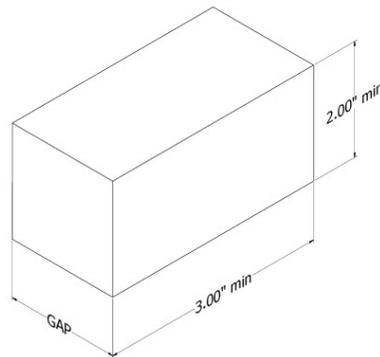

Figure 14: Illustration of spacer
- b. If gaps remain, fill them with spacers measuring at least 2" high x 3" wide (Figure 14). Recommended spacer materials include plastics with compressive yield strength greater than 20MPa. Examples of suitable material available from McMaster-CARR include: